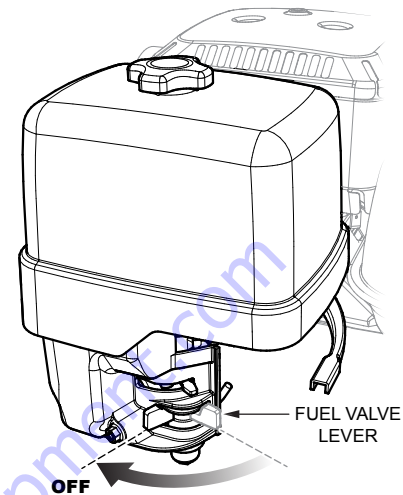

Figure 17. Fuel Valve Lever (OFF)
3. Place the fuel shut-off lever (Figure 17) in the **OFF** position.